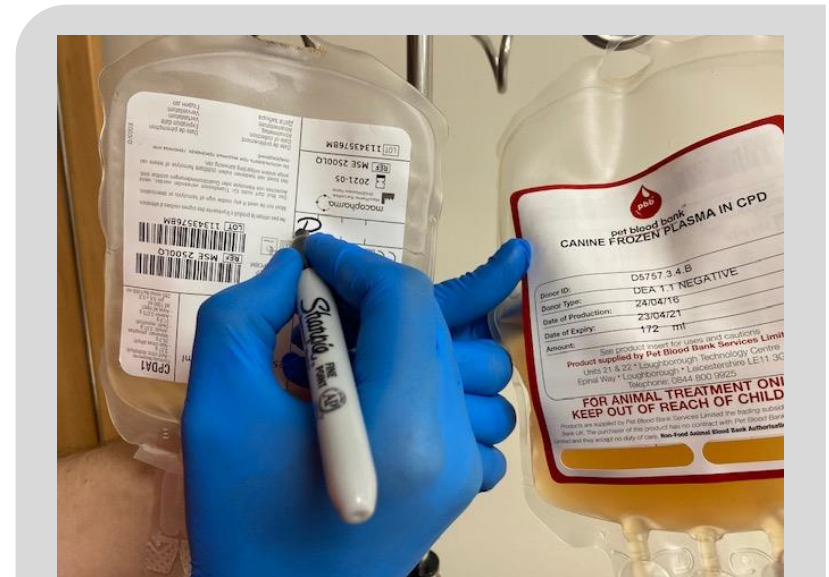

Fig. 20
- Label the collection bag (Fig.20) with the date, time, product name, your initials, product expiry date and ID number, and DEA status +/- patient's name.